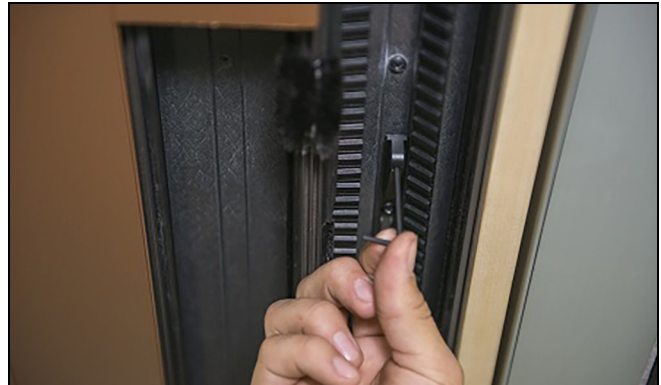

Figure 55
7. Open and close the door using Sliding Door Automatic Control System. Ensure the door manually locks. If the door doesn't manually lock, adjust the set screw. See Figure 55.